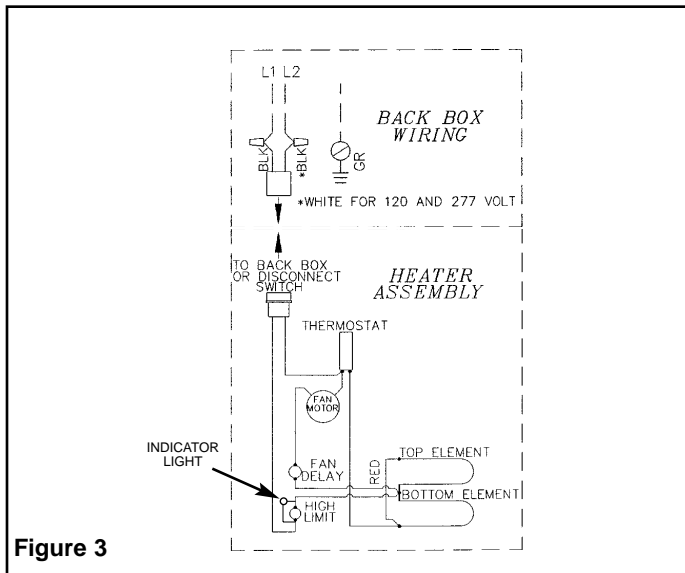

Figure 3
1. Following wiring diagram (Figure 3) connect supply wiring to heater leadwires in back box.